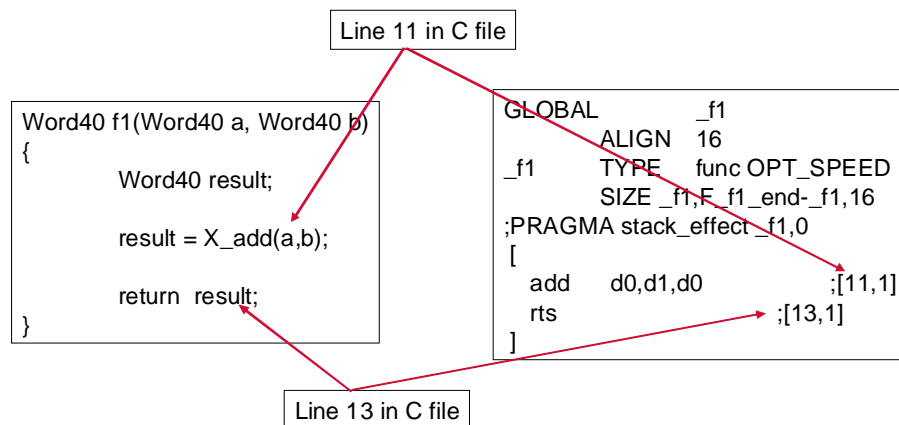

Figure 1. C Source Code and Compiler Generated Assembly Code
- The programmer should get in the habit of examining compiler generated assembly code. This procedure is useful because understanding the generated code gives the programmer information which can be used to modify the C source and make further improvements. It can be enabled in the IDE or with the command line **option --keep**. The compiler generated assembly files are labeled with the “.sl” file extension to avoid them being confused with hand-generated assembly files which have the “.asm” extension. Note that it is easy to correlate generated assembly with C source as the line number of the C source code for a particular assembly instruction is shown in comments. An example is given in Figure 1 to illustrate how to correlate C code with the compiler generated assembly code.